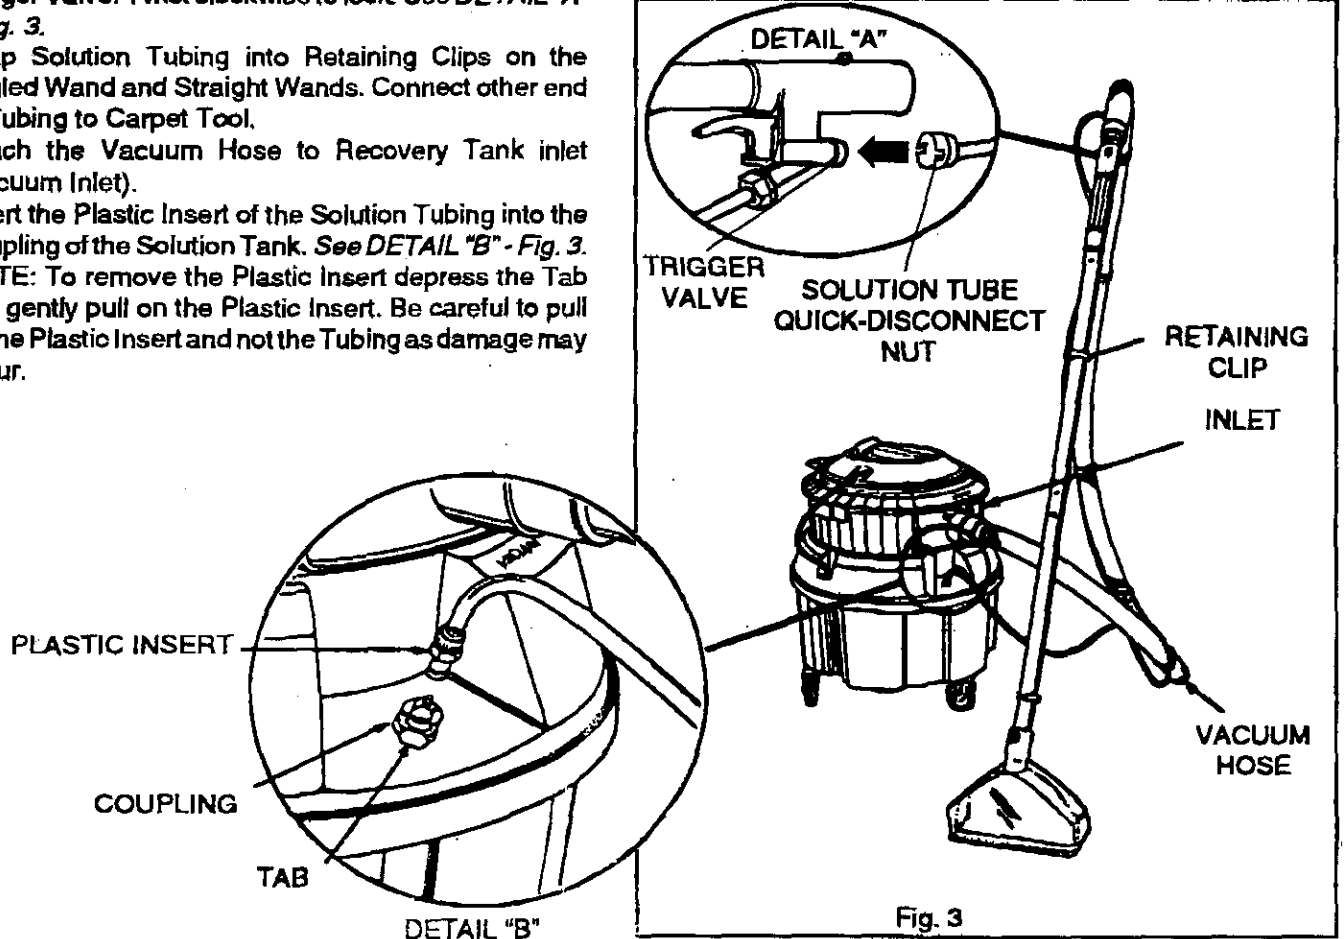

Fig. 3
4. Push the Solution Tube Quick-Disconnect Nut onto Trigger Valve. Twist clockwise to lock. See DETAIL "A" - Fig. 3.
7. Insert the Plastic Insert of the Solution Tubing into the Coupling of the Solution Tank. See DETAIL "B" - Fig. 3.